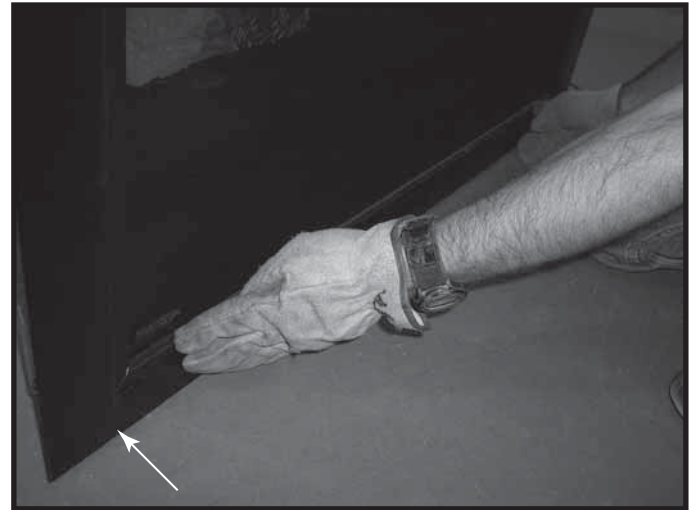

Figure 1. Remove Existing Mesh Assembly
1. Remove existing mesh assembly from fireplace by pushing on the bottom frame of the mesh assembly and releasing the spring brackets. See Figure 1.